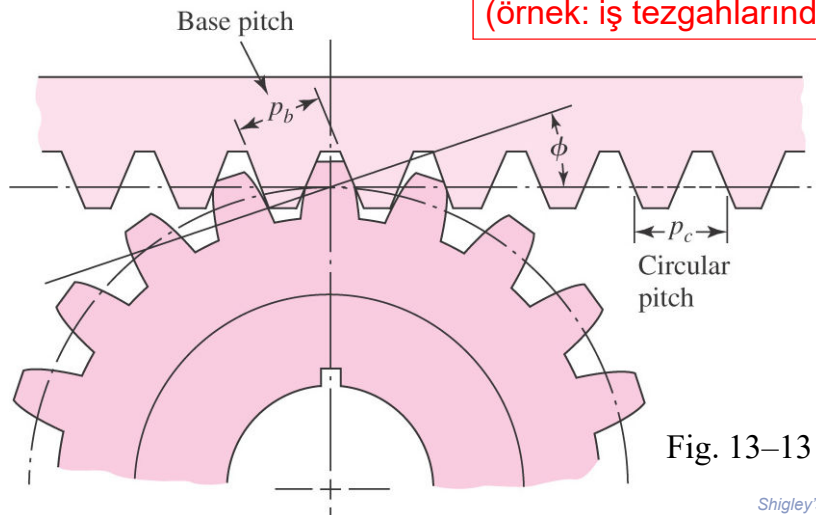

Fig. 13-13
- The *base pitch* and *circular pitch*, shown in Fig. 13-13, are related by